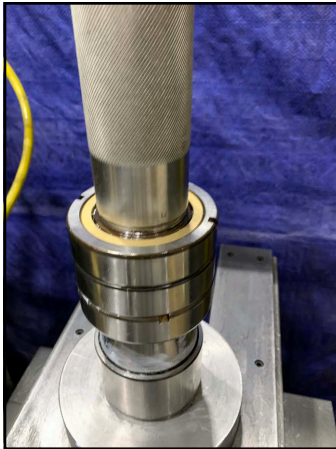

Figure 293 -Press race into bearing
22. Press the race of the four point angular contact bearing onto the shaft, until it seats into the bearing as shown in Figure 293.